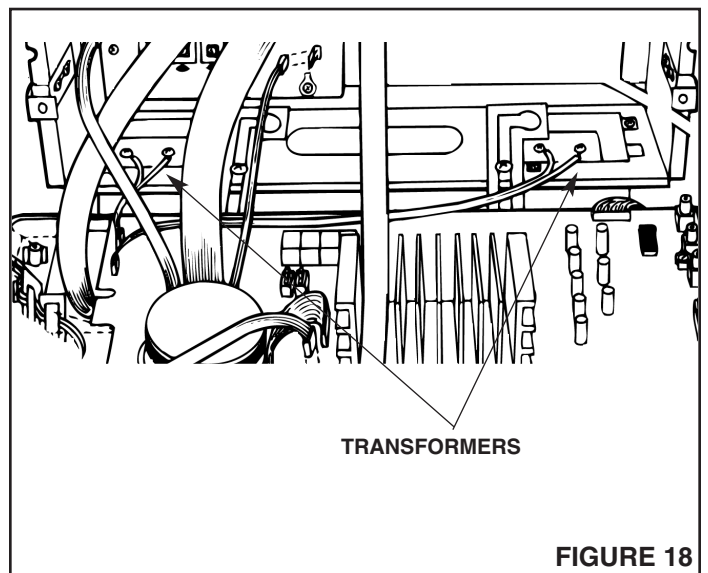

FIGURE 18
1. **Refer to Figure 18.** The transformers' primary leads should already be connected to the 120vAC house supply wiring. Be sure power is off to transformer before connecting Master.